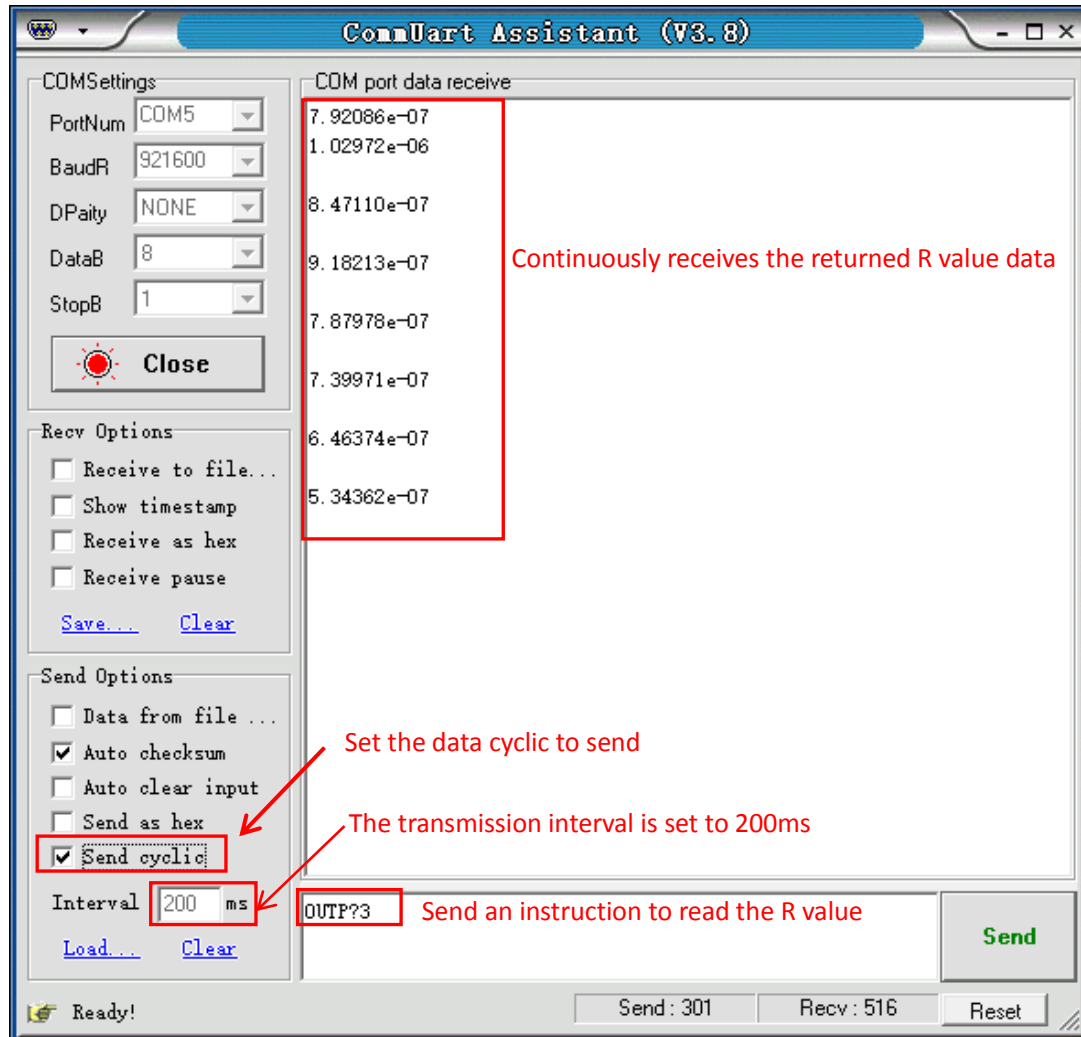
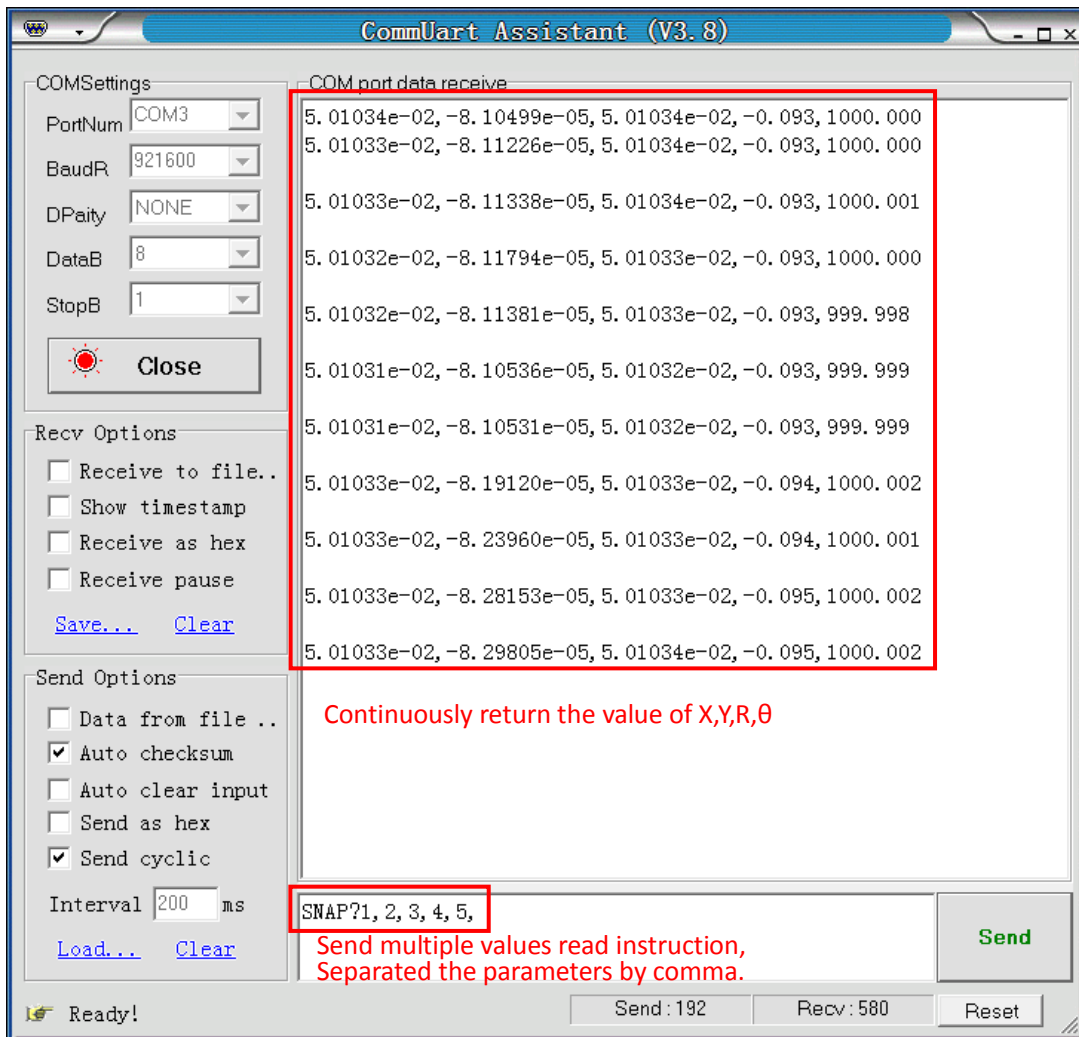

Fig.113 Read the single R value continuously
Fig.114 Read the Values of X, Y, R θ and Freq continuously
4) If you want to read the values of $\langle X \rangle$, $\langle Y \rangle$, $\langle R \rangle$, $\langle \theta \rangle$ and Freq continuously, you can set the transfer interval time as Fig.113 and Fig.114.